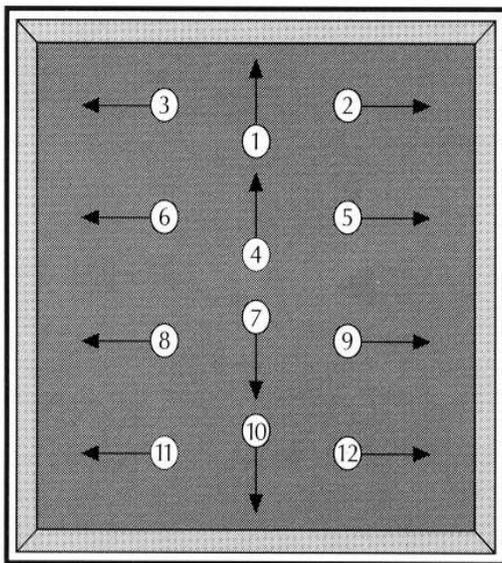

Figure 12
- 1) After trimming, spray the interior side of the film with solution again. Now, you're ready for final squeegee operations. Begin at top center, work vertically and horizontal to the sides, moving down the window. Squeegee entire glass with firm, consistent pressure and angle with overlapping strokes (See Figure 12). Failure to do so will result in water left behind.